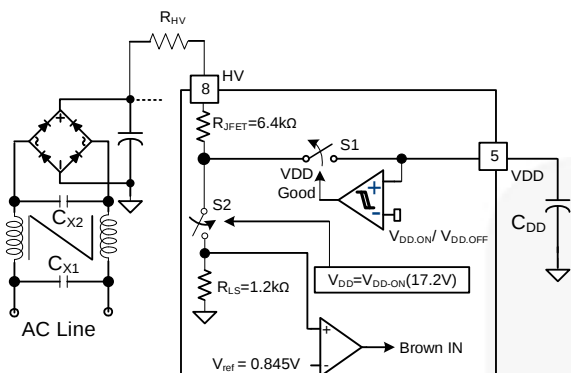
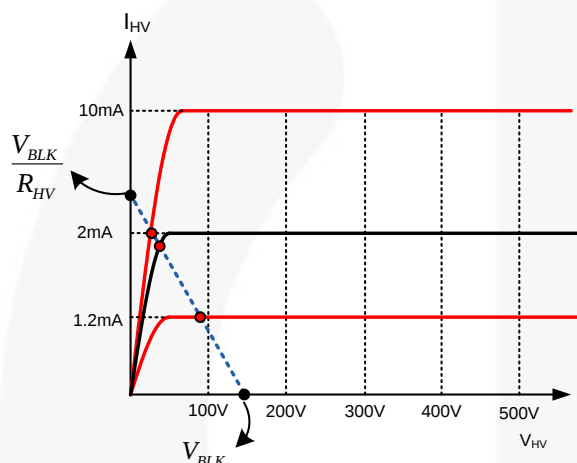

Figure 43. HV Startup Circuit
Figure 44. Characteristics of HV pin
Figure 43 shows the high-voltage (HV) startup circuit. An internal JFET provides a high voltage current source, whose characteristics are shown in Figure 44. To improve reliability and surge immunity, it is typical to use a R_{HV} resistor between the HV pin and the bulk capacitor voltage. The actual current flowing into the HV pin at a given bulk capacitor voltage and startup resistor value is determined by the intersection point of characteristics I-V line and the load line as shown in Figure 44.
During startup, the internal startup circuit is enabled and the bulk capacitor voltage supplies the current, I_{HV} , to charge the hold-up capacitor, C_{VDD} , through R_{HV} . When the V_{DD} voltage reaches V_{DD_ON} , the sampling circuit shown in Figure 43 is turned on for t_{HV_det} (100 μ s) to sample the bulk capacitor voltage. Voltage across R_{LS} is compared with reference which generates a signal to start switching. If brown-in condition is not detected within this time, switching does not start. Equation (9) can be used to program the brown-In of the system. If line voltage is lower than the programmed brown-In voltage, FAN602L goes in auto-restart mode.